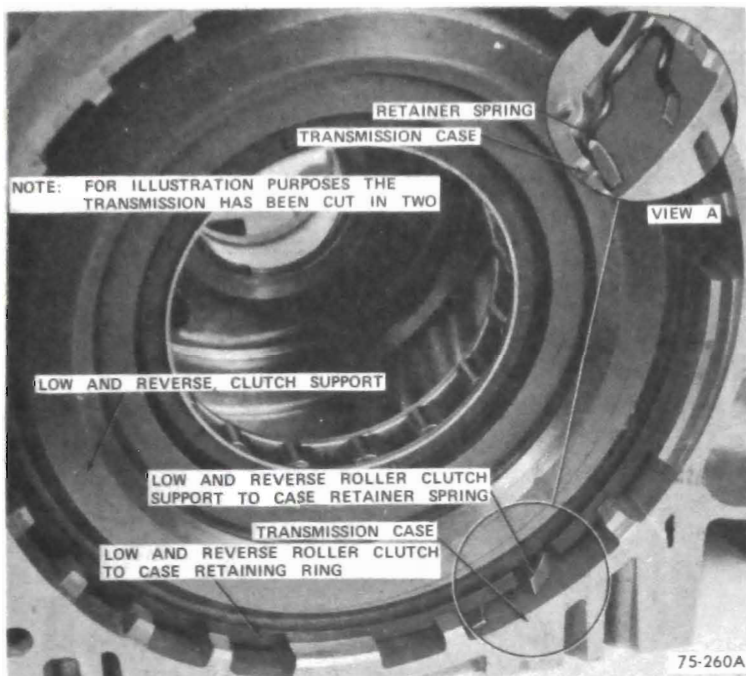

Figure 75-107
1. Remove low and reverse roller clutch support to case retaining ring. See Figure 75-107.
3. Remove low and reverse clutch support retainer spring. See Figure 75-107.